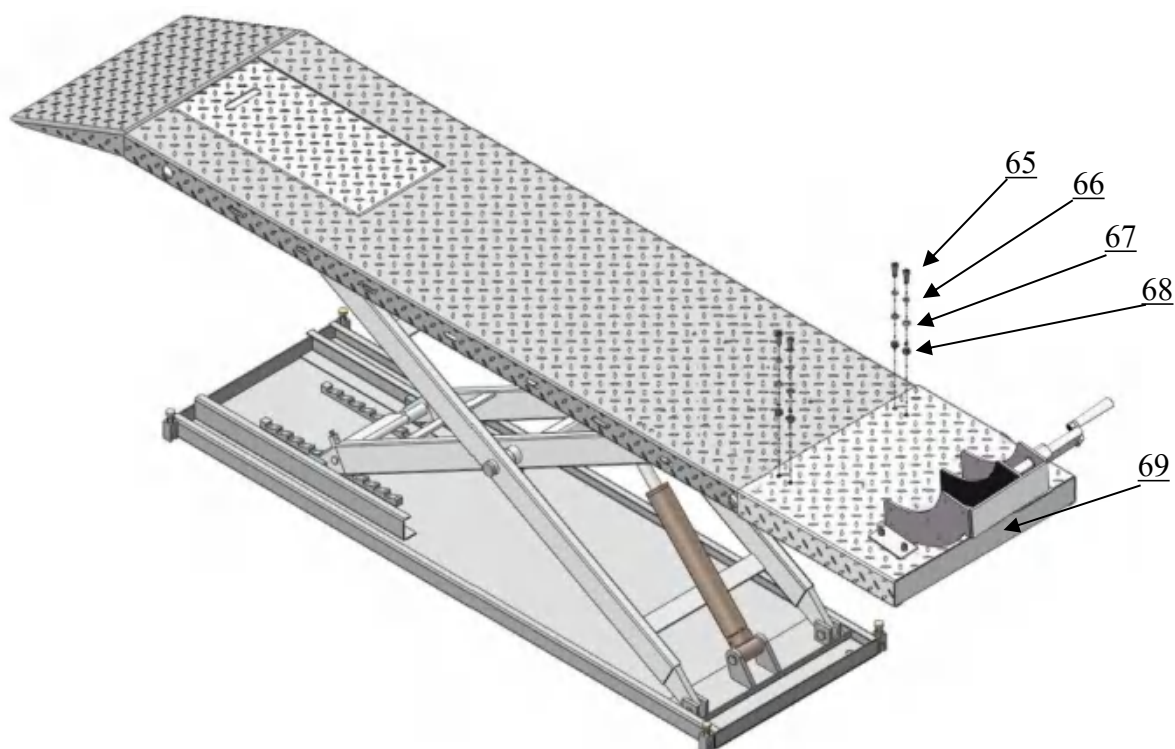

Fig.11
G. Install optional Length extension kit(MC002). See Fig 11